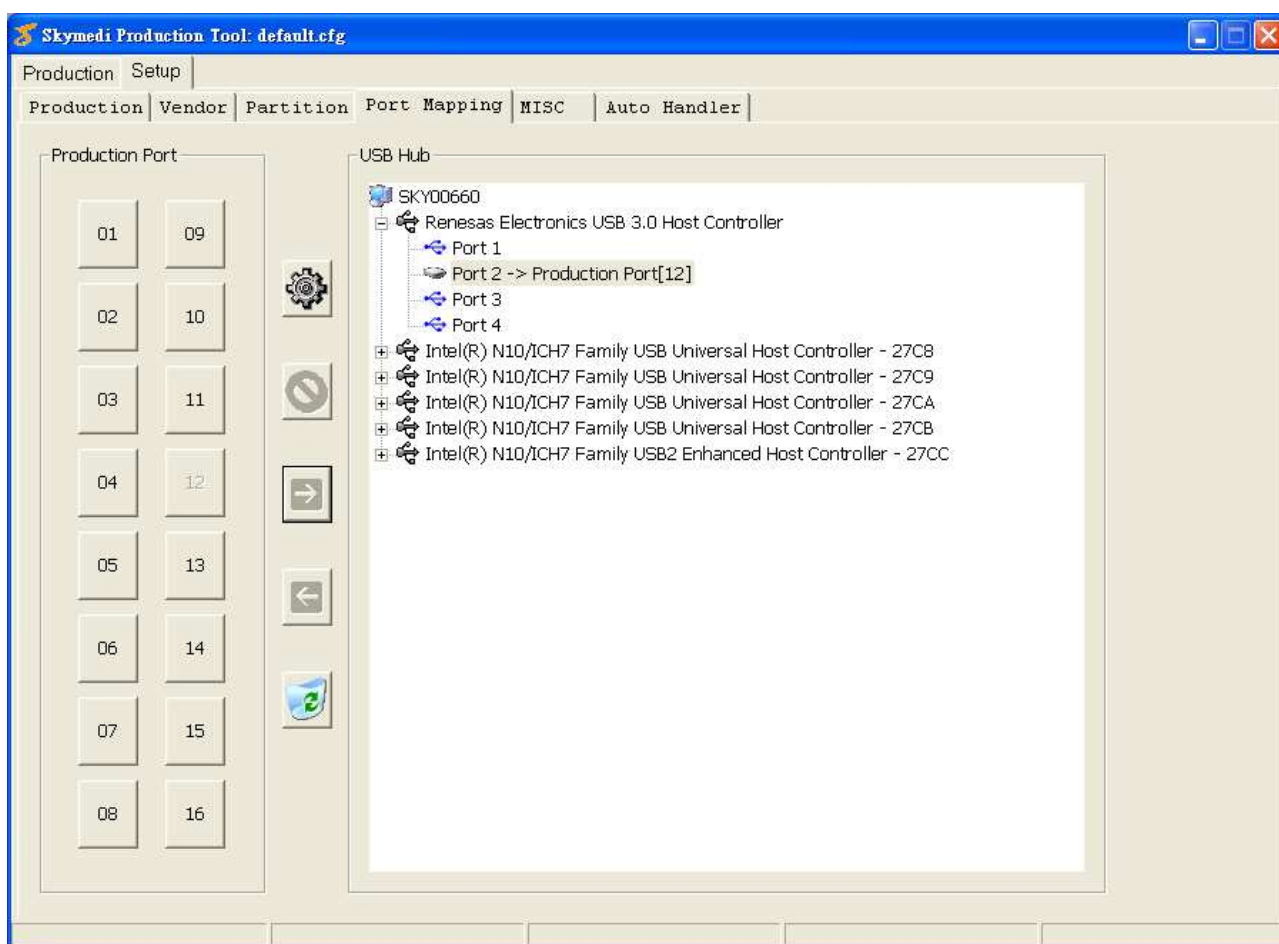

Figure-46 : Manual Port Mapping-4
4. User may see the mapping result as Figure-46